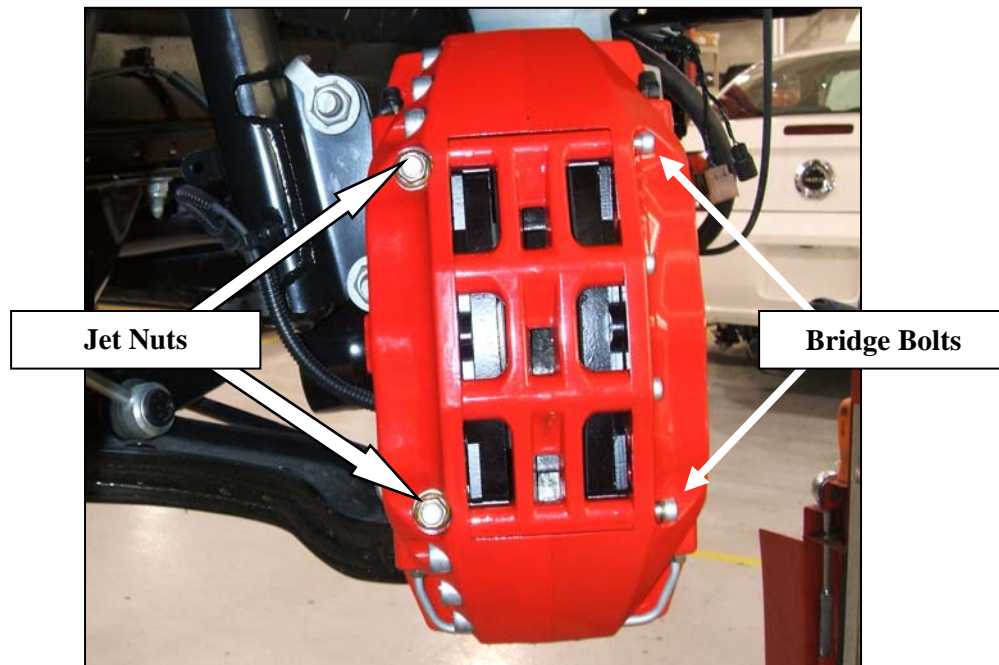

Figure 13
5. Loosen the top and bottom Bridge Bolts and install the 12mm washers and Jet Nuts onto the caliper bracket studs. Torque the Jet Nuts to 55 Nm (41 lb-ft). Retighten the loosened Bridge Bolts to 12 Nm (106 lb-in). Refer to Figure 13.